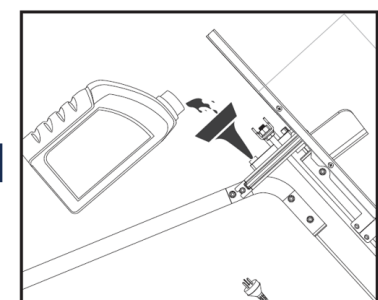

Fig. 16c
4. Tilt the log splitter to the opposite side as shown in Fig. 16c. Refill with fresh hydraulic oil using a funnel. Refer to Table 1 for the hydraulic oil tank capacity.